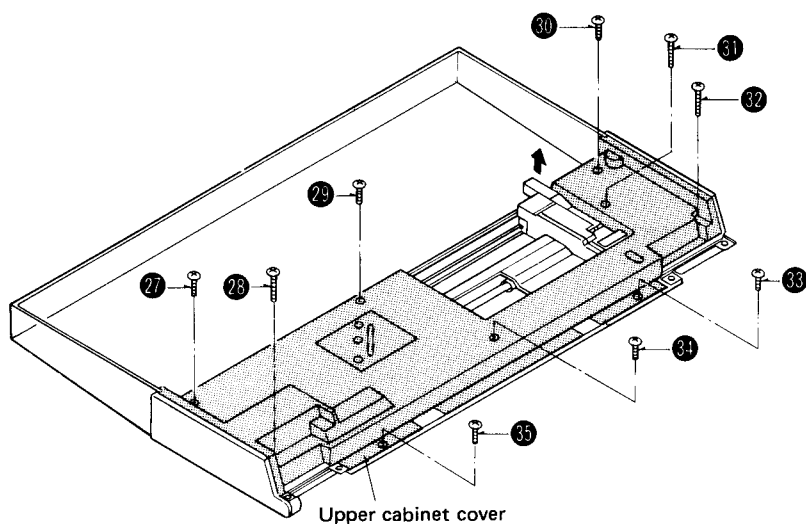

Fig. 9
4. Completely open the dust cover; remove the upper cabinet cover setscrews 27 ~ 35; and remove the upper cabinet cover while pulling the tonearm in the direction of the arrow. (Fig. 9)